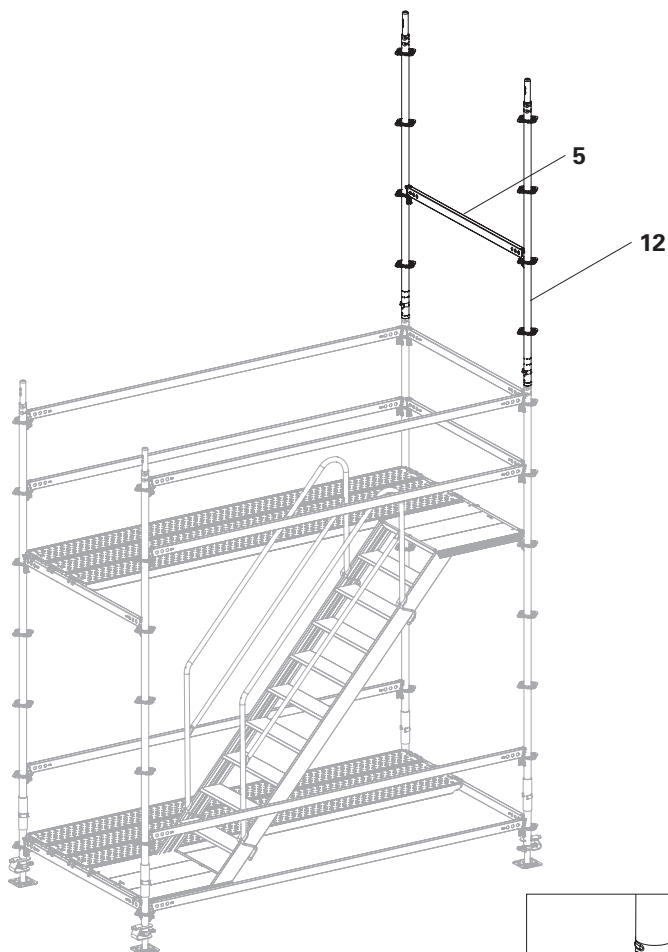

Fig. A4.01
2. Fit Horizontal Ledgers UH-2 (**5**) and secure wedges with hammer blow. (Fig. A4.01)